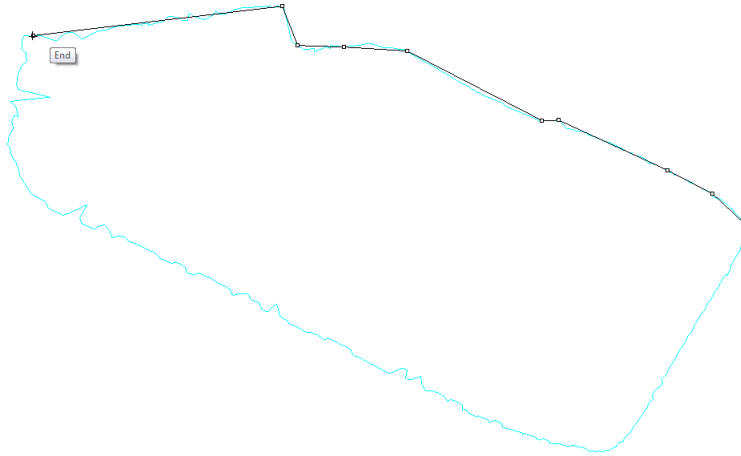

Figure 115: Building a polyline starting from a point on the floor contour.
12. Maximize the Top view and **View|Zoom|Zoom Extents** to maximize the floor contour on your screen. Type **_Polyline** and click on a starting point somewhere on the contour line in the **Top** view (Figure 115).
17. Type **_Polyline** and start tracing the next contour line, in the Top view, all around until the polyline is closed (Figure 115). Make sure your polyline does not touch or cross the boundary of the lower level bench you just outlined in the previous step.